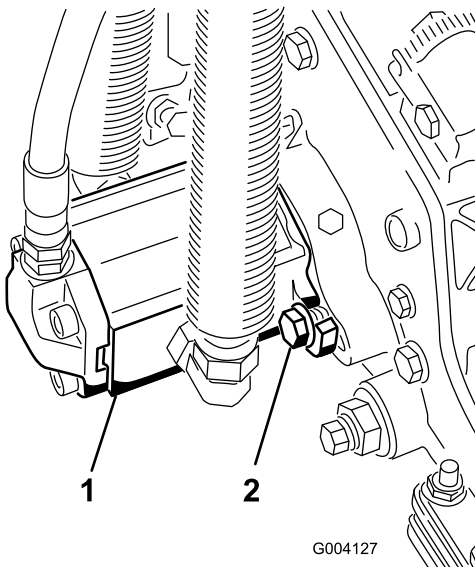

Figure 30
3. Install the motor by rotating it clockwise so that the motor flanges clear the bolts (Figure 30).